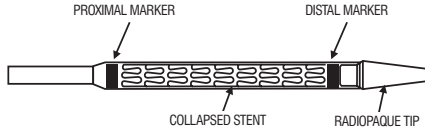

Figure 1: Tip Detail Showing Stent Location Markers
- Radiopaque markers on the shaft that mark the stent location, as illustrated in Figure 1.